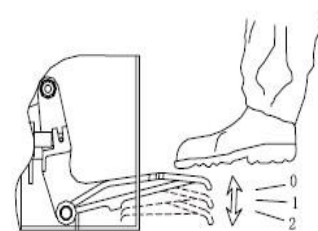
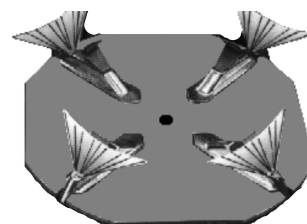

Fig 22
Fig 23
- a. Press Rapid Tire Inflation Pedal to the middle position (**Fig 22**, position 1), the inflating head should give air.
- b. Press Rapid Tire Inflation Pedal all the way down (**Fig 22**, position 2), a strong air blast should come from the holes in the four jaws' locking sliders. (**Fig 23**)